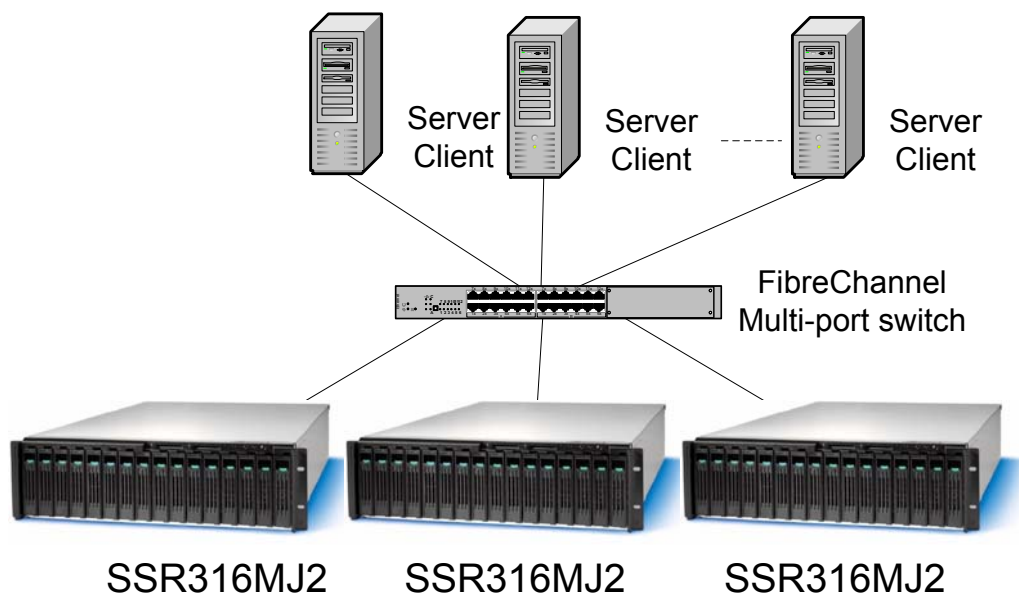

Figure 4. FibreChannel switched configuration
- D. Configure the SSR316MJ2 system to one or multiple Server Clients as shown below³. See Figure 4.